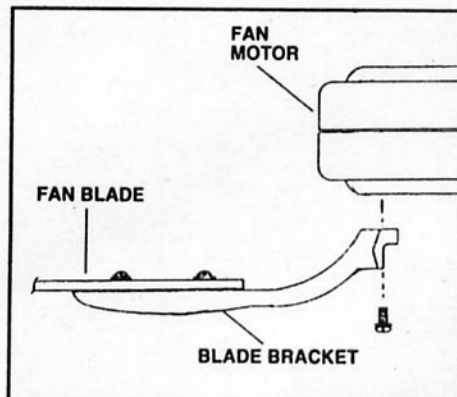

FIG. 15
Step 2. Remove the rubber stops from the motor. Rotate the motor so that the screw holes are revealed through the opening on switch cup plate. Align holes in blade bracket and motor and secure with proper screws. Repeat process with the other blade brackets. (Fig. 15)